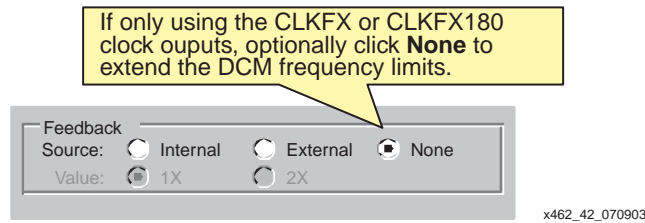

Figure 3-43: Select No Feedback (None) to Extend Frequency Synthesizer Frequency Limits
- Disable DCM feedback by selecting **None**, as shown in Figure 3-43. Without feedback, the CLKFX and CLKFX180 frequency range is extended to both lower and higher frequencies and disables the CLK0 and other DLL outputs.